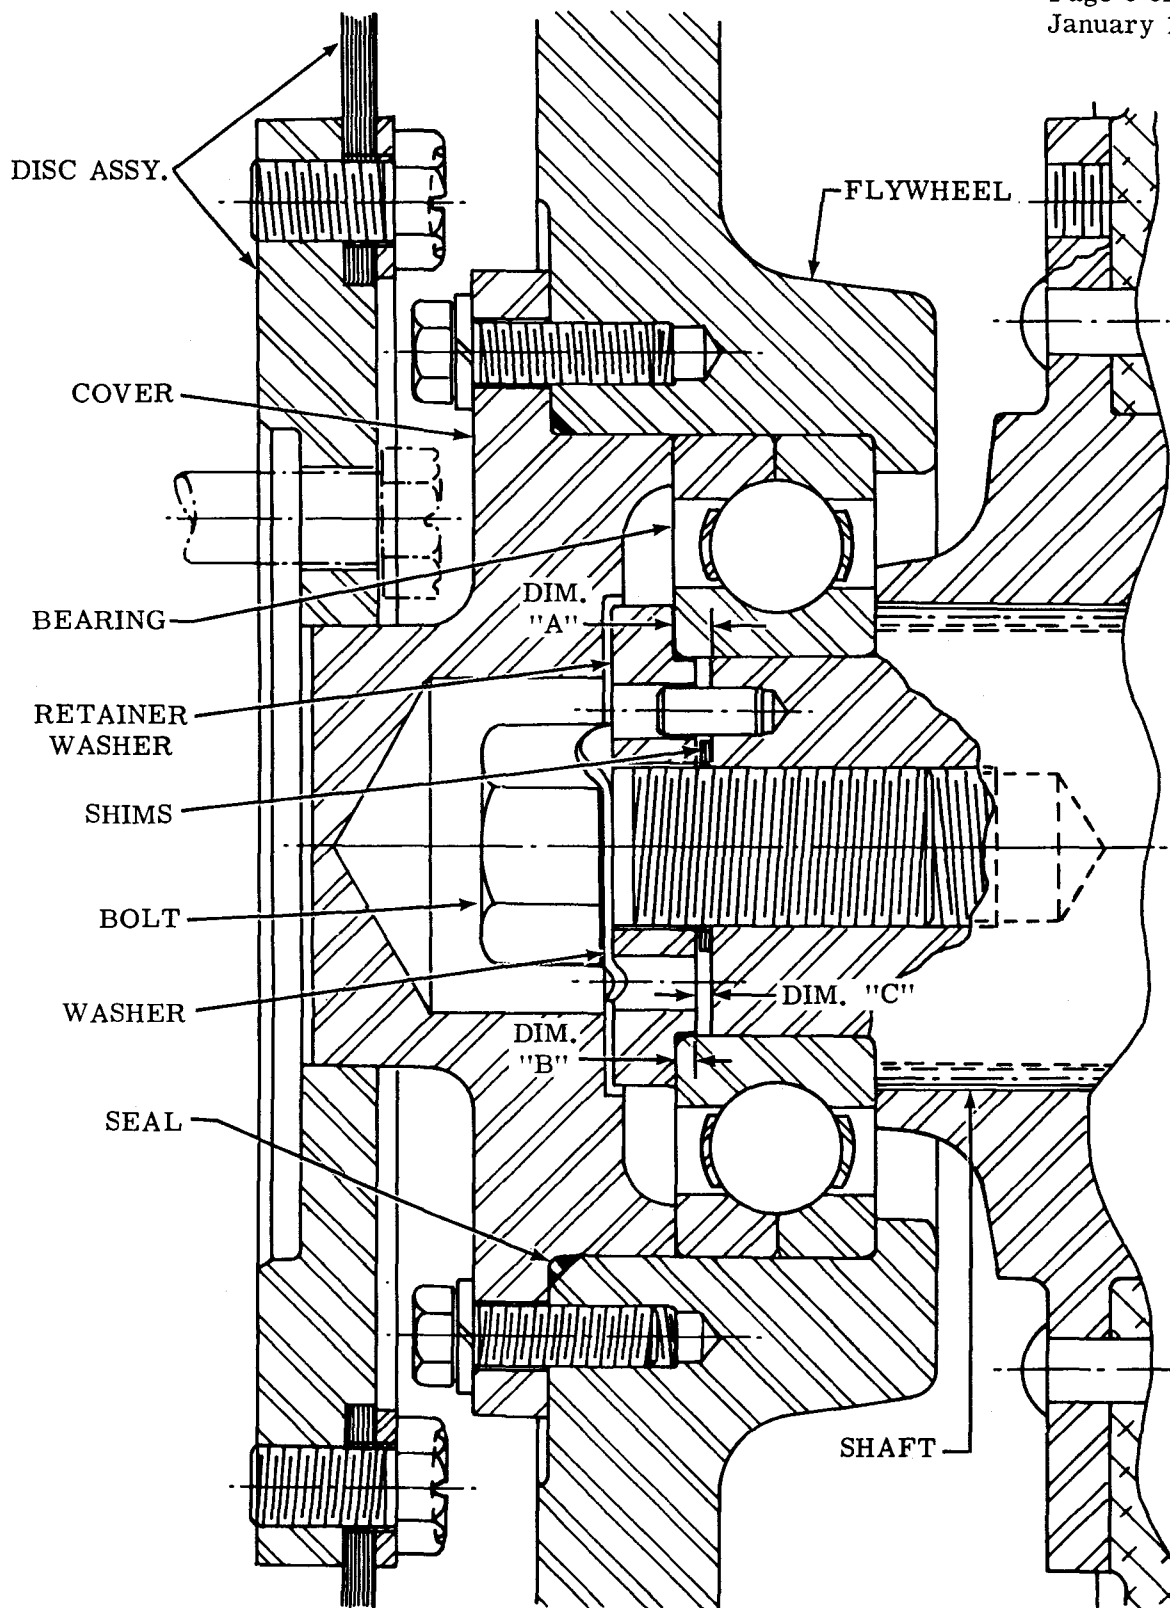

Fig. 1. Measurements to determine retainer washer shim thickness.
As a product improvement, shims have been released for installation between the turbine bearing retainer washer and the end of the converter output shaft (fig. 1). Further, the shaft journal diameter has been increased to provide a tighter fit of the turbine bearing on its shaft and will be introduced into production at manufacturers option.
1. Remove flex-disc drive assembly, fig. 1.